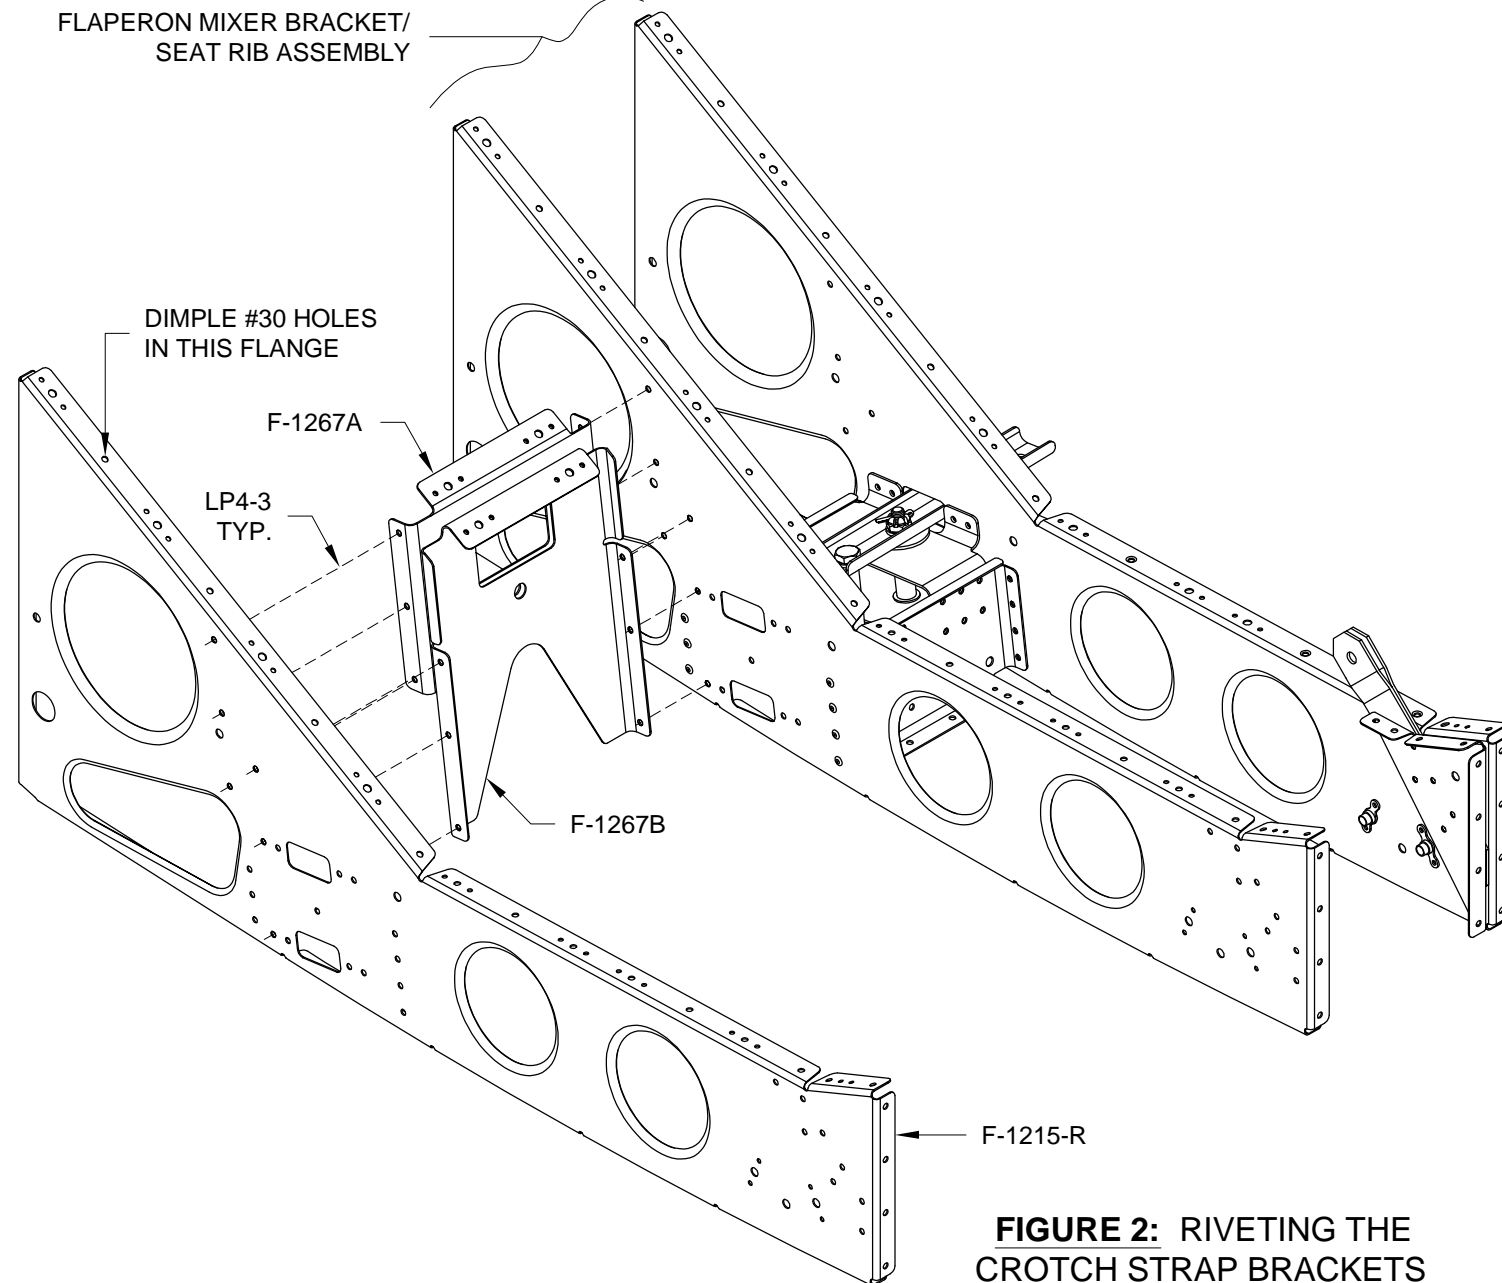

FIGURE 2: RIVETING THE CROTCH STRAP BRACKETS
Step 3: Dimple the four #30 holes in the sloped flange of the one remaining F-1215-R Seat Rib as indicated in Figure 2.
Step 4: Rivet one each of the F-1267A & B Crotch Strap Brackets to the Flaperon Mixer Bracket/ Seat Rib Assembly and to the remaining F-1215-R Seat Rib (from step 3) using the rivets called out in Figure 2.